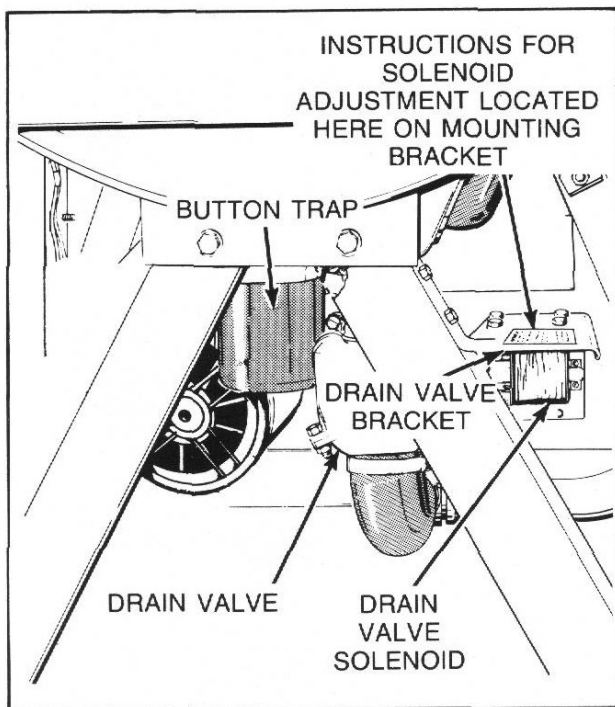

Figure 18
**17. BUTTON TRAP (Refer to Figure 18)**
**18. DRAIN VALVE AND BRACKET ASSEMBLY (Refer to Figure 18)**
**19. DRAIN VALVE SOLENOID (Refer to Figure 18)**